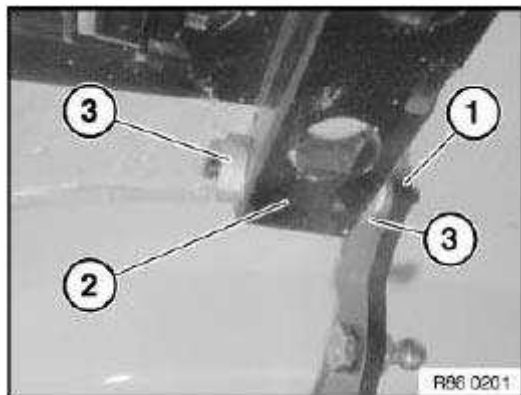

Fig. 147: Identifying Plastic Washers, Hinge Bracket And Mounting Bracket
Check lid in transition (C) to hood (flush) and correct if necessary. Correction is made by inserting or omitting plastic washers (refer to **Fig. 147**).